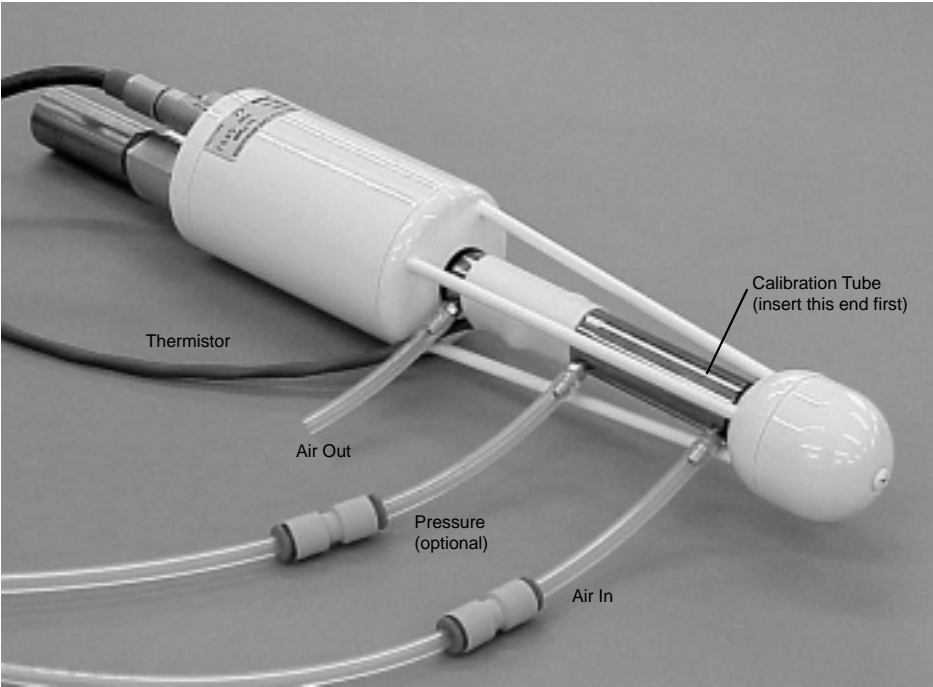

Figure 4-1. Flow calibration gas at the Air In port shown.
2. Place the calibration tube into the sensor head as shown in Figure 4-1 and connect the temperature sensor cable to the LI-7500 control box.
4. Flow CO₂-free air through the calibration fixture at a rate of about 0.5 to 1.0 LPM. Attach the zero gas to the calibration fixture at one of the ports shown in Figure 4-1.